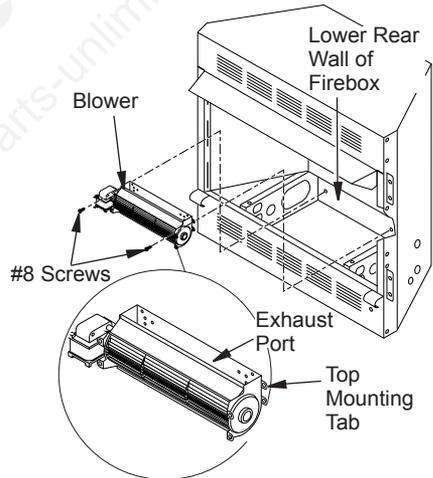

Figure 19 - Mounting Blower to Firebox
3. Place the blower against lower rear wall of firebox outer wrapper with the exhaust port directed upward. Align the holes in top mounting tabs of blower with holes in wall of wrapper (see Figure 19). Using two #8 screws provided, mount blower and tighten screws firmly.